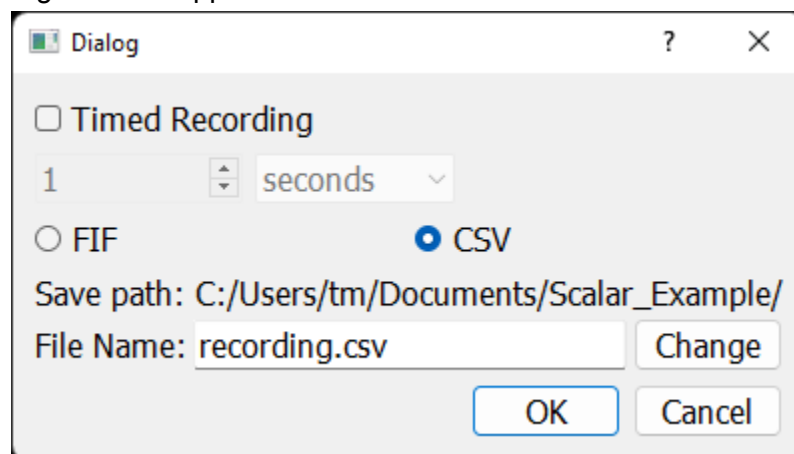

Figure 6 - Recording Prompt
12. If you want to record data using the GUI simply click the “record” button at the top and the prompt in Figure 6 will appear: